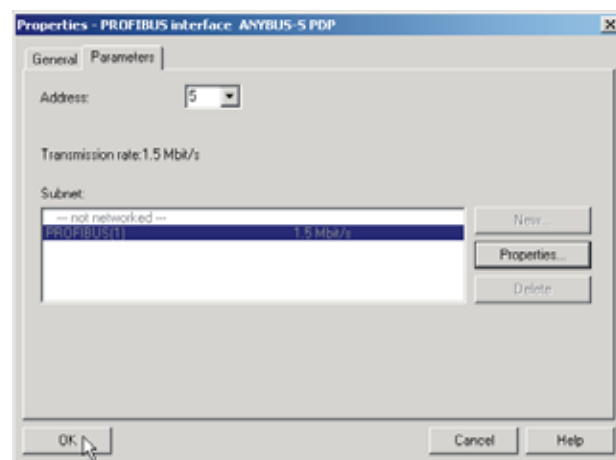

FIG. 142: ANYBUS-S PDP PARAMETERS DIALOG BOX
- Step 5. Double Click on ANYBUS-S PDP or drag and drop the ANYBUS-S PDP folder to the Profibus-DP Network. The Parameters dialog box appears. (See Fig. 142)